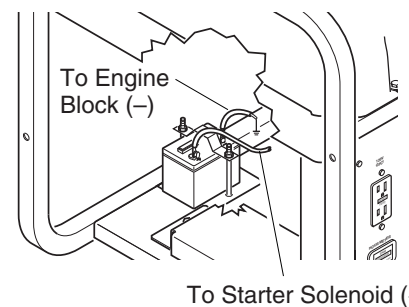

Figure 10 - Connecting Positive and Negative Cables to Battery (Alternator Removed for Clarity)
2. Locate the red, positive (+) battery cable from starter solenoid. Connect it to the positive (+) battery terminal (see Figure 10).
3. Locate the black, negative (-) battery cable attached to engine block. Connect it to the negative (-) battery terminal (see Figure 10).